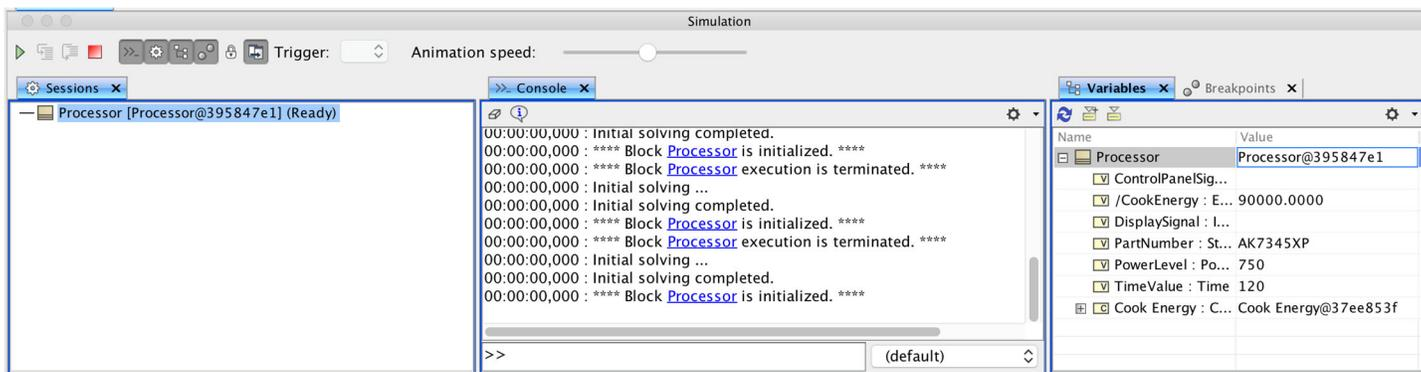

Figure 36. Computed Value
- F. To evaluate the function, give the input Parameters default values, Power Level = 750 and Time Value = 120, then simulate the Parametric Diagram to get the value for Cook Energy. Figure 36 shows the simulation window with the computed value of 90000 for Cook Energy.